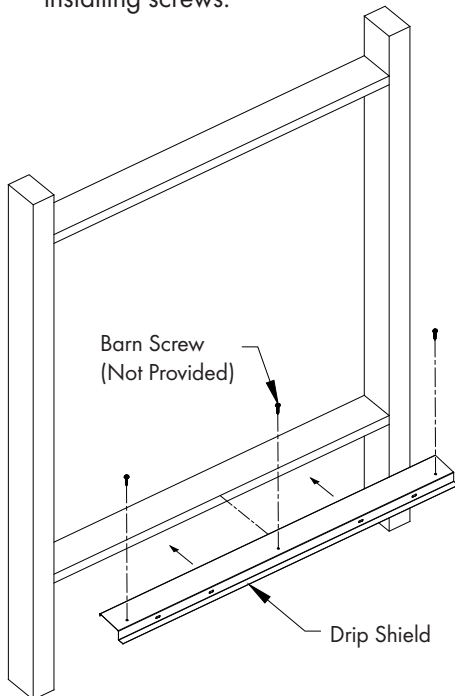
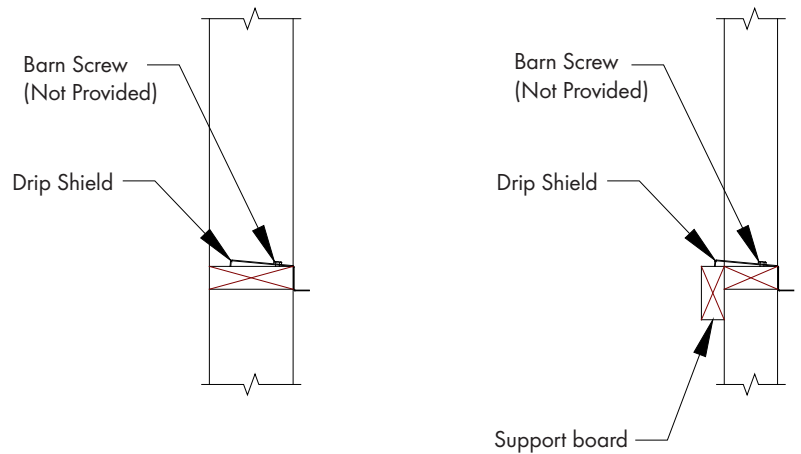

Figure 6A
Figure 6B
Attach Drip Shield to bottom of framed opening using (3) Barn Screws (Not Provided). See Figure 6A and 6B. If a 4" wall is used a support board must be installed as shown in Figure 6B. Be sure not to deform Drip Shield when installing screws.